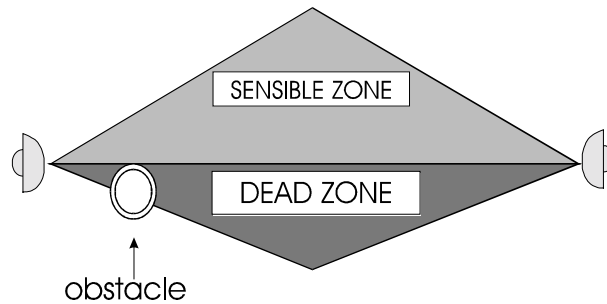

Figure 4 - Sensitive zone in the presence of an obstacle
- **The nature of the obstacles,** eventually present, provokes either a reflection or an absorption, or a combination of both these phenomena in confrontation with the electromagnetic energy contained. Therefore, different alterations of the protection field occur depending on the nature of the obstacles. (FIG. 4)